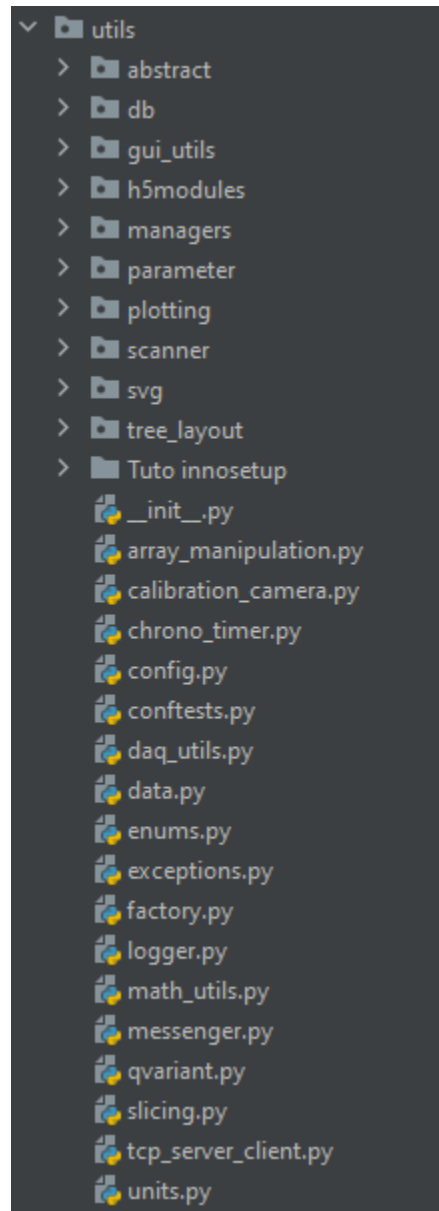

Fig. 7.4: Layout of the utils module
- Utils module: contains all utility modules, see Fig. 7.4.